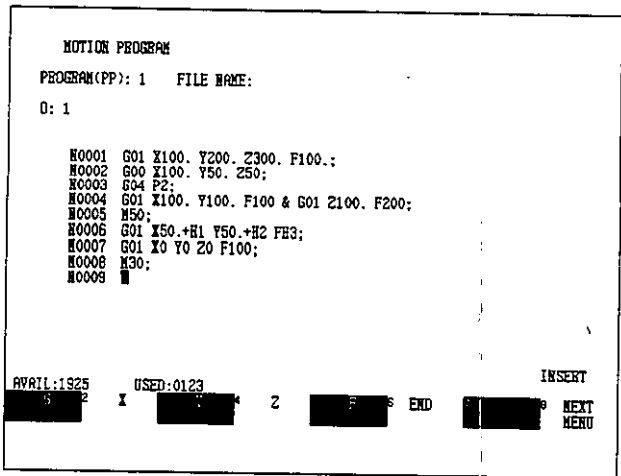

Figure 6.298
1) Display the Program Screen shown in Figure 6.298.
- 1) Display the Program Screen shown in *Figure 6.298*.
1) Display the Program Screen shown in *Figure 6.298*.
- 1) Display the Program Screen shown in Figure 6.298.